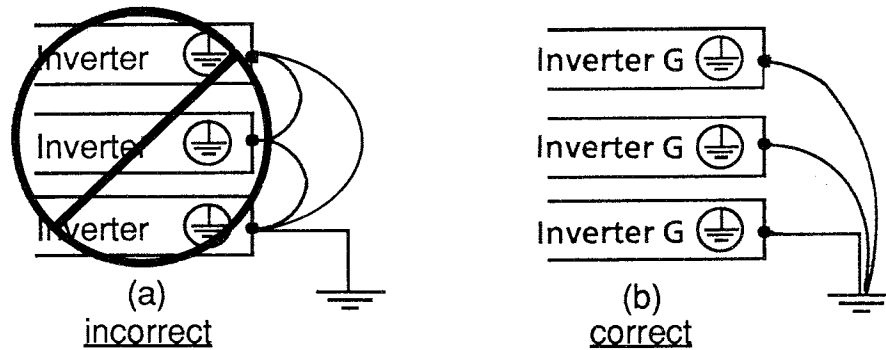

FIGURE 3
- When grounding several inverters, connect as shown in Fig. 3 below.